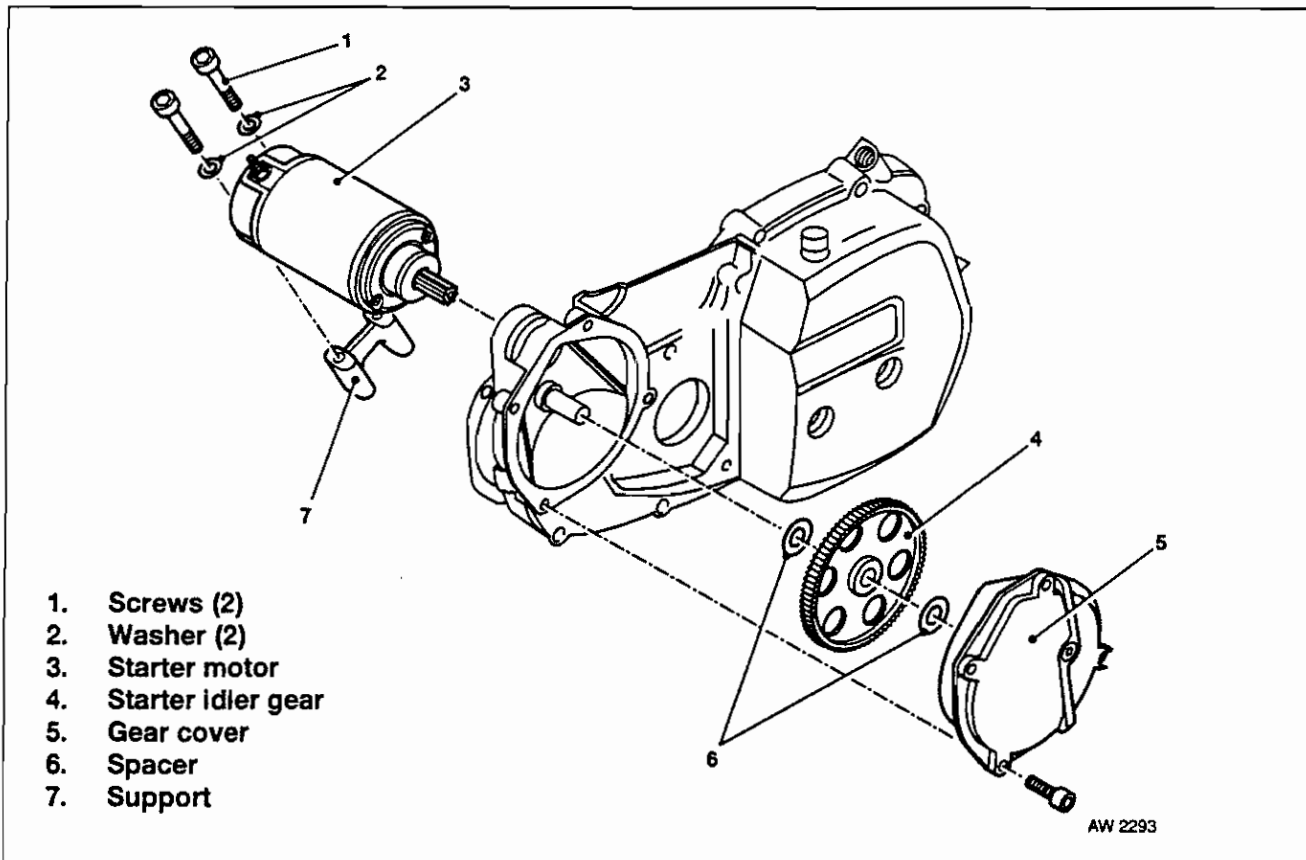

Fig 7.5 Electric Starter
(1) Fig 7.5 refers. Disconnect the electrical cable. Remove support screws (1), washers (2) and support (7). Remove starter motor (3).